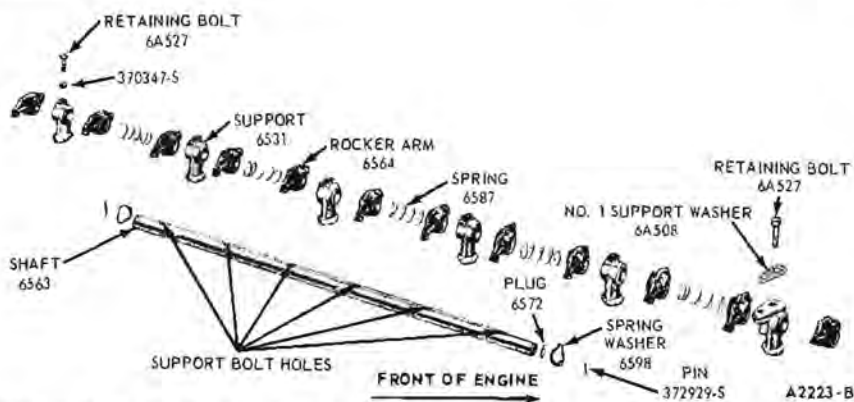

FIG. 17—Valve Rocker Arm Shaft Assembly
4. Install the valve rocker arms, supports, and springs in the order shown in Fig. 17. Be sure the oil holes in the shaft are facing downward. Complete the assembly by installing the remaining spring washer and pin.